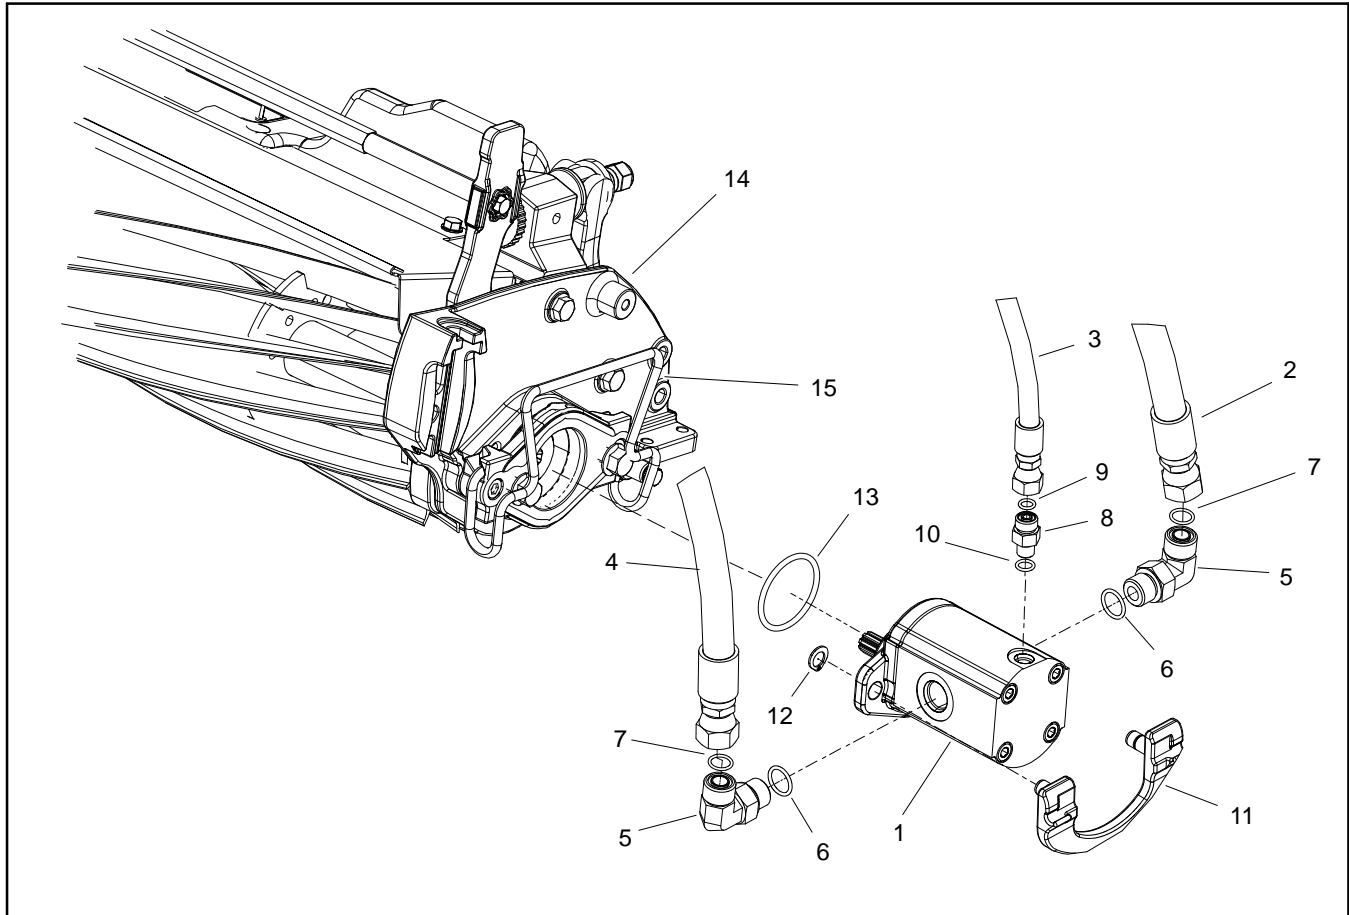
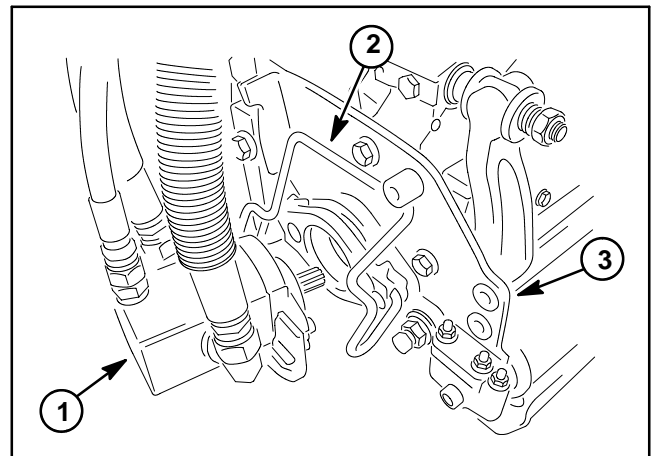

Figure 55
Figure 57
### Removal (Fig. 55)
B. Slide reel motor from cutting unit (Fig. 57).
6. Remove two (2) retaining rings that secure motor mount (item 11) to reel motor. Remove motor mount from motor.
**Installation (Fig. 55)**
2. Position motor mount to reel motor flange and secure with two (2) retaining rings.
B. Align reel motor shaft splines with splines in cutting reel. Slide reel motor into cutting unit side plate (Fig. 57).